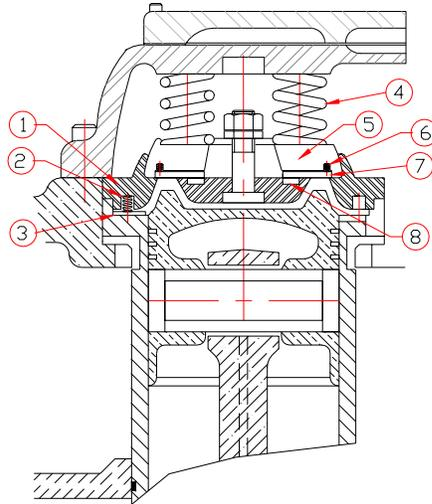

Fig. 2
- a) As shown in (Fig. 2) both the suction valve assembly and discharge valve assembly are held in place by the cylinder cover, therefore under no circumstances can the compressor be operated without these components or the cylinder cover being correctly fitted.